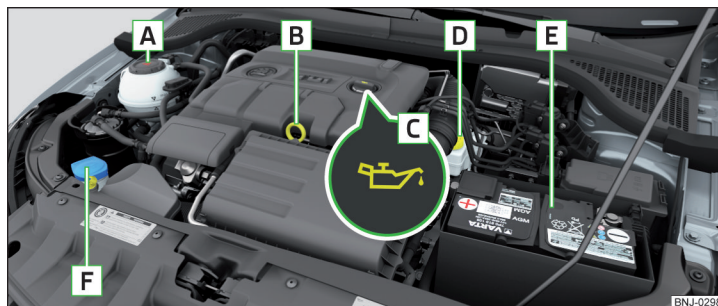

Fig. 258 Arrangement (example) in the engine compartment
- Unscrew the cap of the engine oil filler opening  » Fig. 258 on page 210.